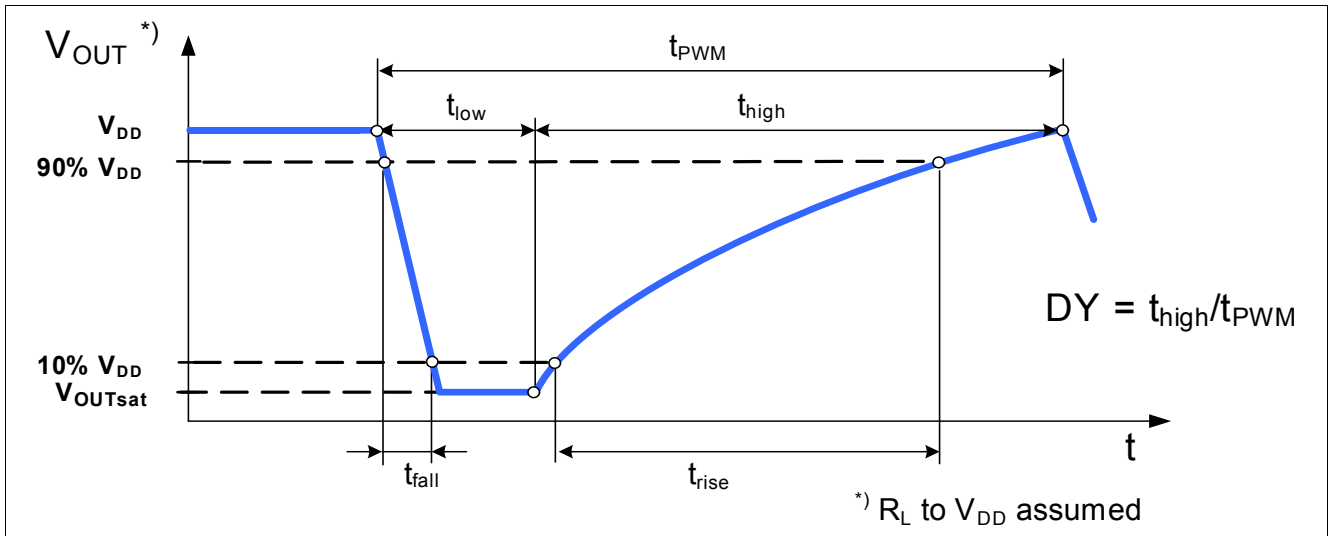

Figure 5-1 Output Characteristic
7) Depends on External R_{L} and C_{L} , See Figure 5-1